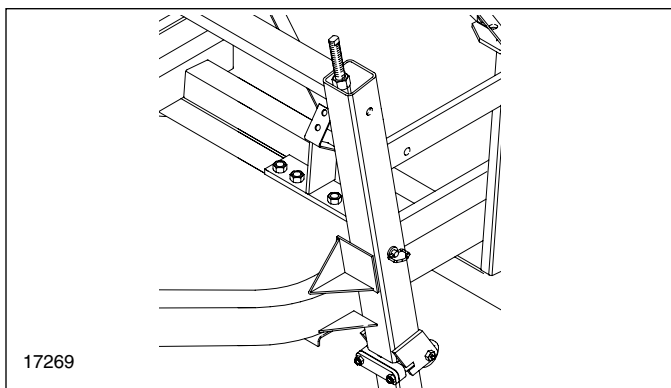

Figure 19
2. To prevent possible damage in case of hydraulic failure during transport, **ALWAYS** insert transport lock pins when transporting, Figure 19, Transport Lock Pin in Transport Position.